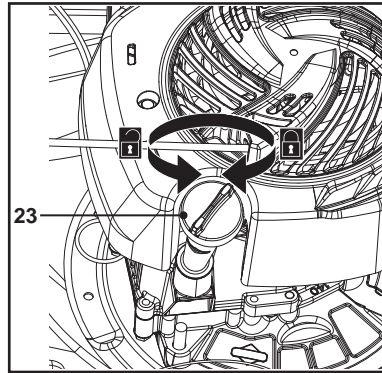

Fig. 9
1. Untighten and remove the oil tank cap (23) (Fig. 9).